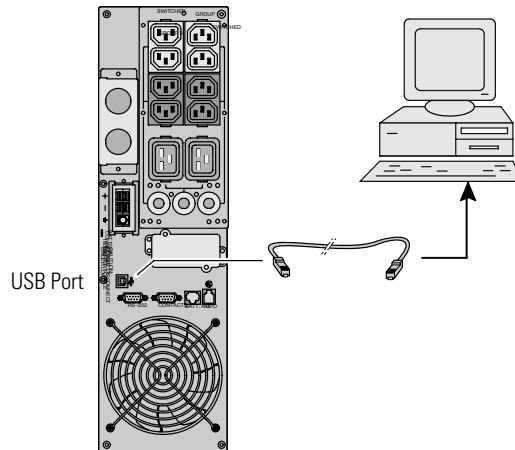

Figure 35. The USB Port
1. The USB port is hot-pluggable. Connect the USB cable to the USB port on the UPS rear panel (see Figure 35).